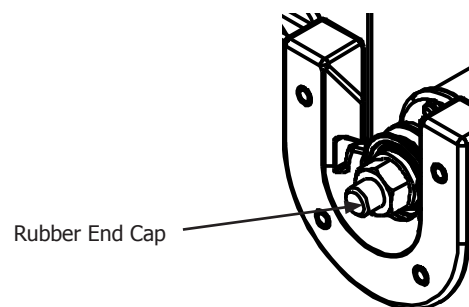

Fig. 14-1
- (1) frame assembly with poles (from two-foot extension and Kinetic Frame)
- (8) rubber end caps (from Kinetic Frame)
14-1: Slide one (1) rubber end cap onto the end of each bolt sticking out of the pole ends, as shown in **Fig. 14-1**. If the poles are assembled properly, there should be approximately 3/8-inch to 1/2-inch of metal threads showing beyond the ends of the pole.